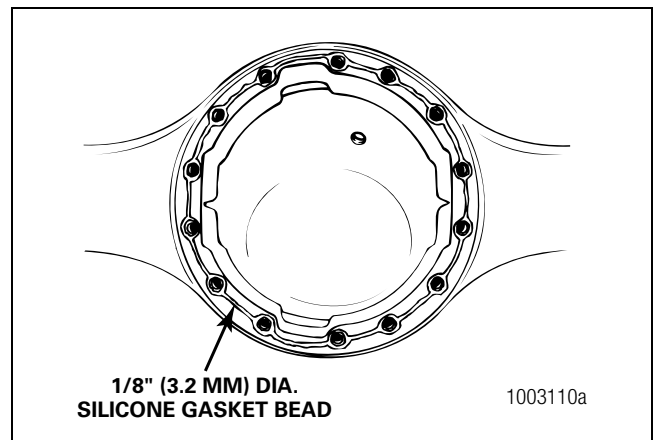

Figure 5.52
5. Apply silicone gasket material to the mounting surface of the housing where the carrier fastens. Refer to Section 4. Figure 5.52.